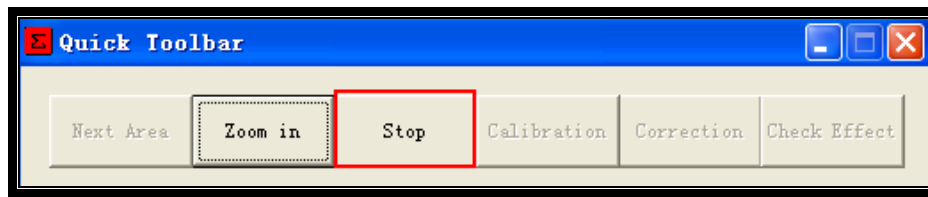

Fig.3-17
Step16: Click the “stop” button on Quick Toolbar after focusing, as shown in fig.3-17, then the